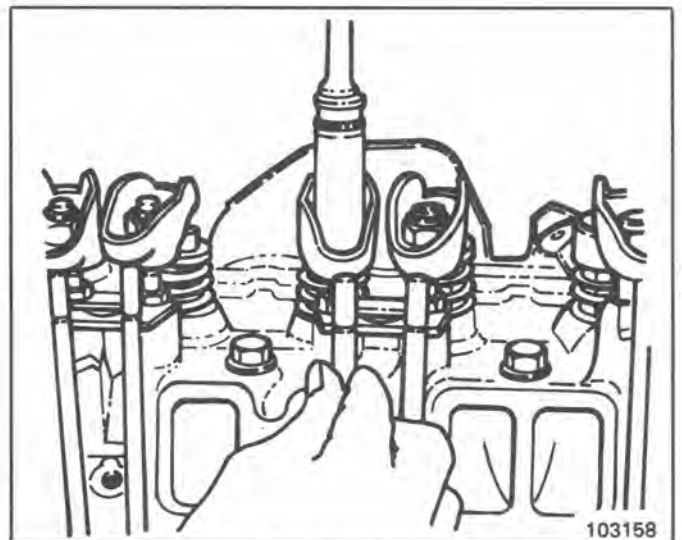

Figure 12 Adjusting Valve Lash
- Back out adjusting nut until lash is felt at the push rod, then turn in adjusting nut until all lash is removed (Figure 12). (This can be determined by rotating push rod while turning adjusting nut). When lash has been removed, turn adjusting nut in 1 1/4 additional turns (to center lifter plunger).